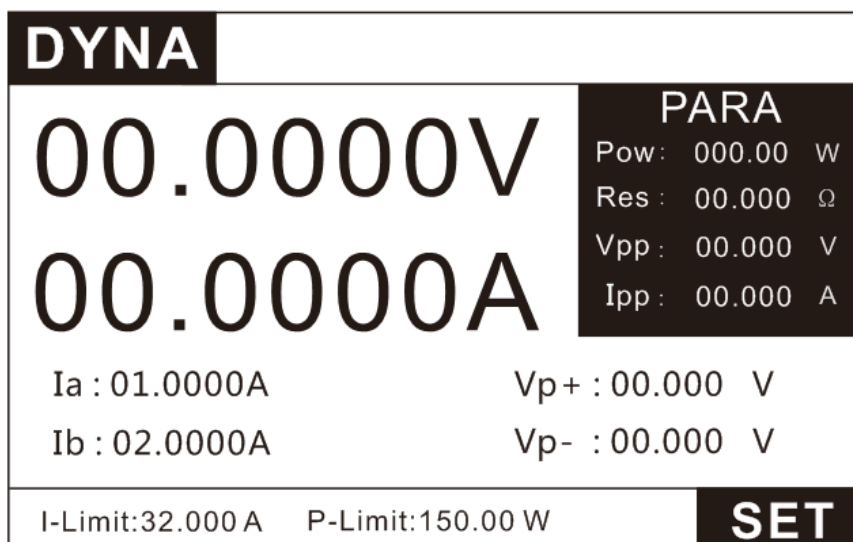
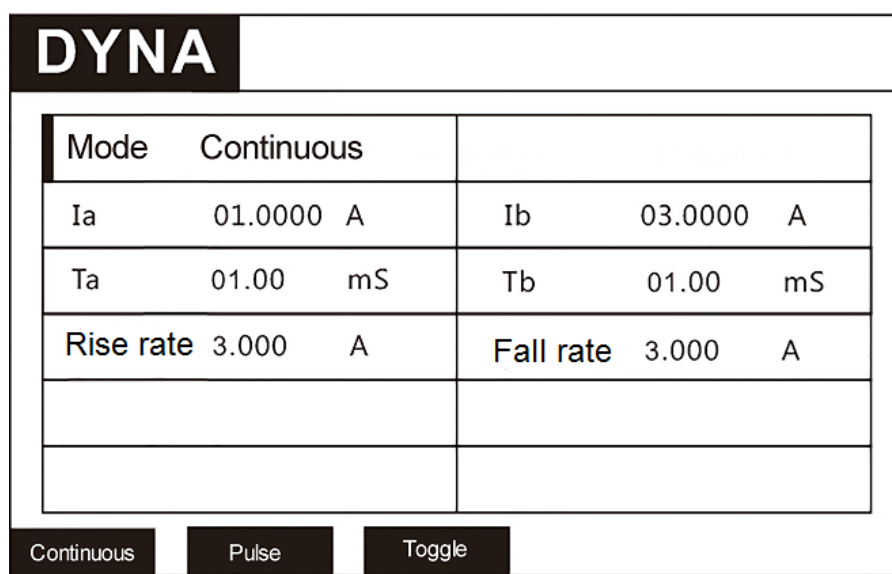

Figure 3.16 DYNA testing Page
Figure 3.17 DYNA Setting Page
1. Press the key **MODE** to enter the mode selection page, press the up and down keys to select DYNA, and press the key **ENTER** to enter the DYNA test interface, as shown in Figure 3.16.
2. In Figure 3.16, press the key **SET** to enter the setting interface, as shown in Figure 3.17.
3. As shown in Figure 3.17, set the test mode to continuous test, high current $I_b=3A$, high time $T_b=1mS$, low current $I_a=1A$, low time $T_a=1mS$, rise/fall rate= $3A/uS$.